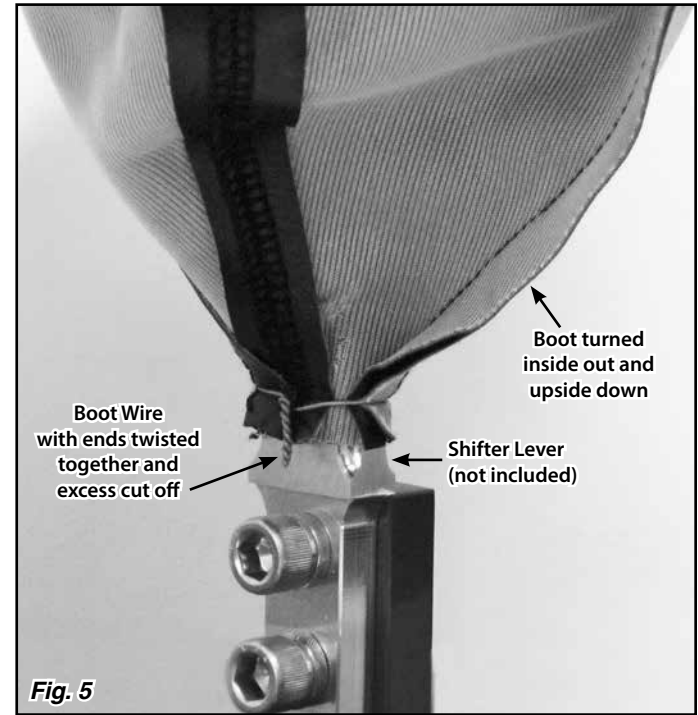

Fig. 5
Step 5: Wrap the boot wire tightly around the inside out and upside down Boot, approximately 1/4" - 3/8" above the small end of the Boot. If the Shifter Lever has a boot wire groove, make sure that the wire falls into the boot wire groove. Use a pair of pliers to twist the ends of the boot wire together 4-5 turns. **Fig. 5**
Step 6: Use wire cutters to cut off the excess wire. Bend the twisted end of the wire flat against the Shifter Lever, pointed in a direction so that the twisted end will not damage the boot. **Fig. 5**